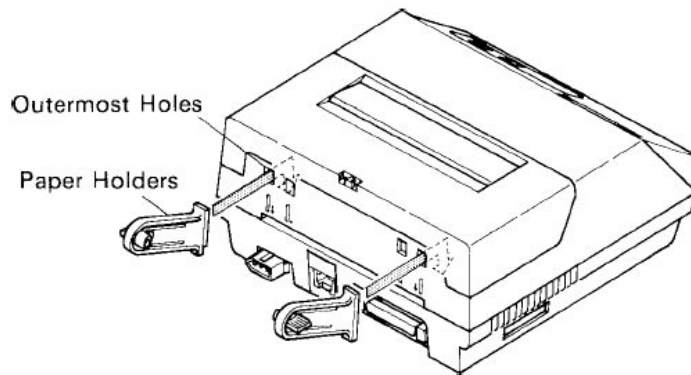

Figure 1-3. Installation of Paper Holders
1. Install the Paper Holders in the outermost holes in the rear of the printer as shown in Figure 1-3.